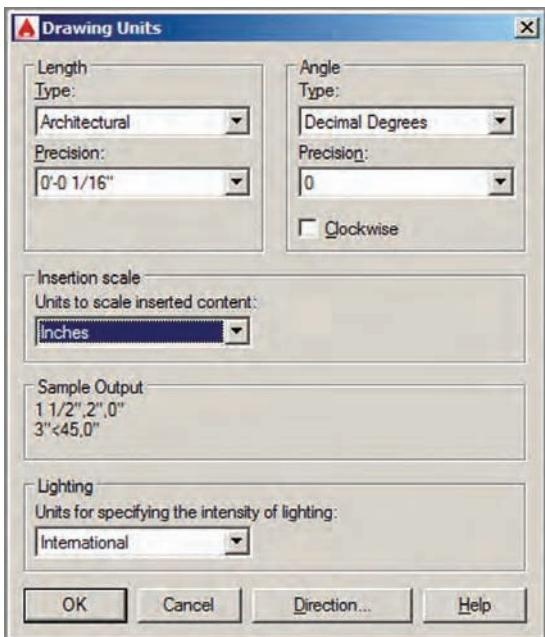

FIGURE 7.8 Setting Insertion Scale in the Drawing Units dialog box
1. Type **UN** (for Units) and press Enter. Open the Insertion Scale drop-down menu, and select Inches (or Centimeters for metric) if it is not already selected (see Figure 7.8). Click OK to close the Drawing Units dialog box.